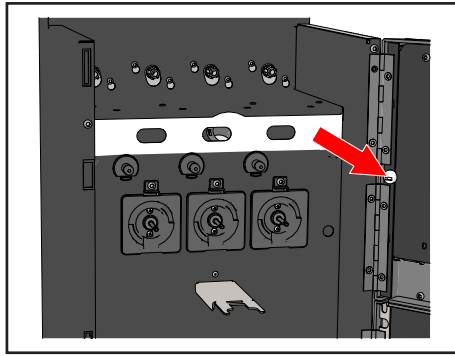

Figure 42.
14. Remove the suction box from the machine and clean (see Figure 42).